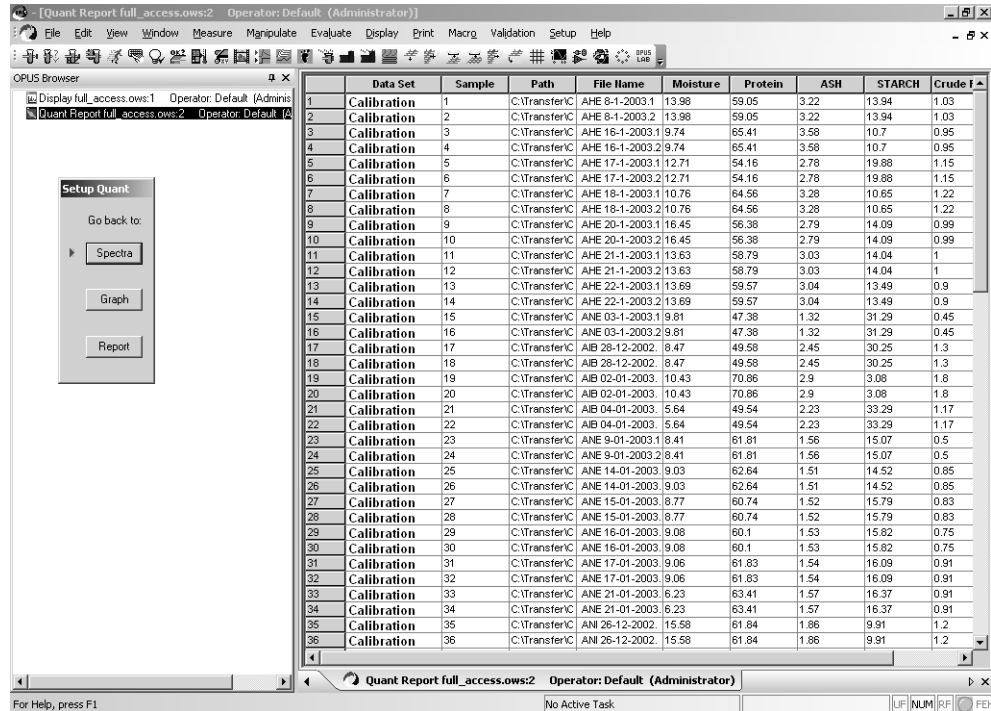

Figure 125: Pasting Spectra plus Concentration Values
- Position the cursor in the empty cell of the *Path* column and paste the content of the clipboard into the table. See figure 125.